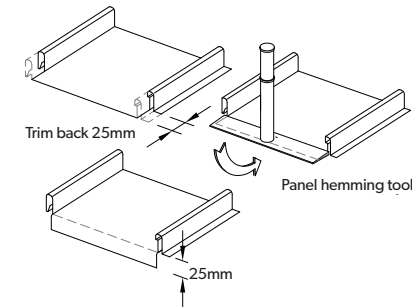

Figure 11.2.4:
3. Align and engage the next sheet as shown in Figure 11.2.4 and then screw fix as per Step 2.